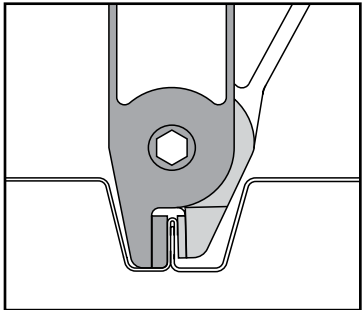

Figure 2
- 7. Actuate tool by pulling trigger. Depress trigger until the jaw fully closes to ensure a full punch. (see Figure 2)